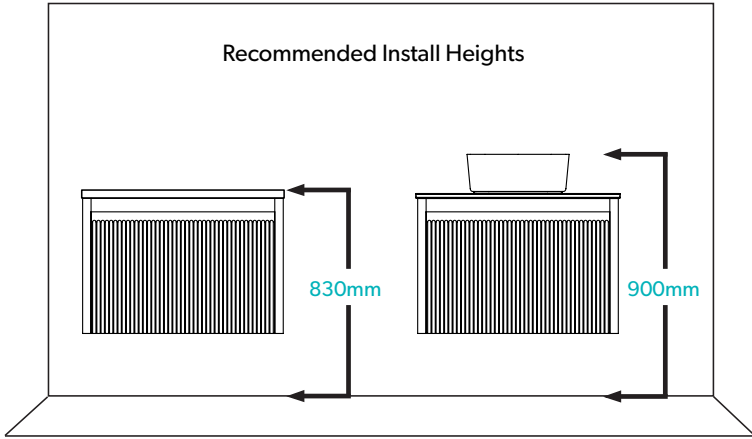

Fig. 1 - Recommended Install Heights
2. Plan the unit position on the wall. HiB recommend the installation heights shown in *Fig. 1*.